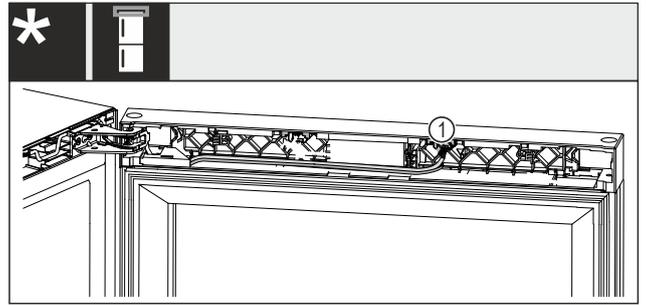

Fig. 25 Wine-freezer combinations*
- ▶ Pull the plug Fig. 25 (1) out of the retaining clip.*